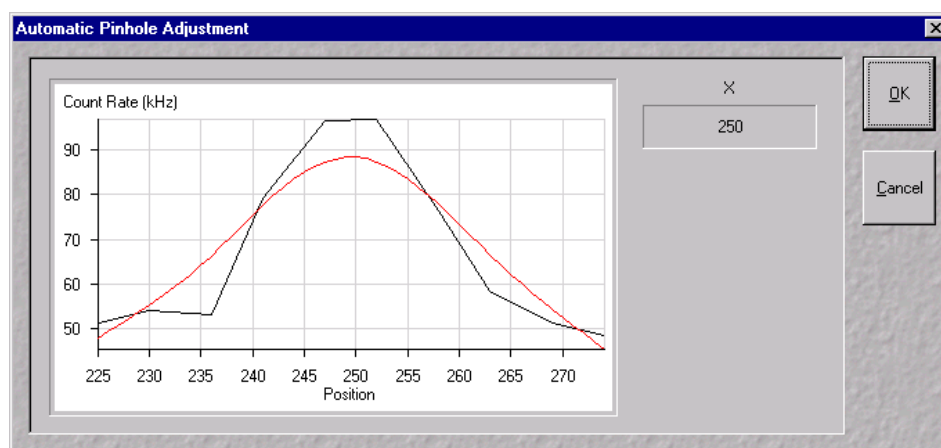

Fig. 4-46 Automatic Pinhole Adjustment
- The **Automatic Pinhole Adjustment** window will appear (Fig. 4-46). It is possible to exit the process using the **Cancel** button. When the process is finished, quit with **OK**.